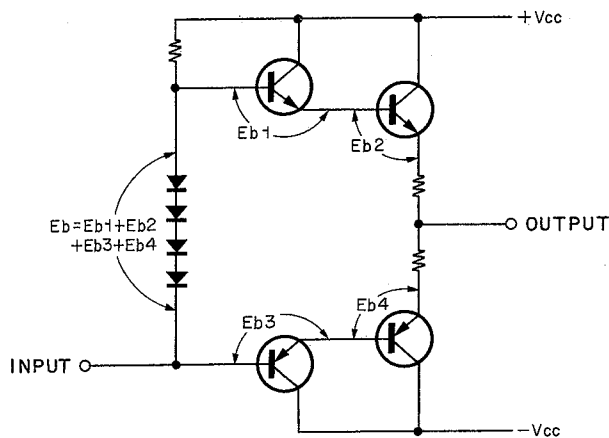
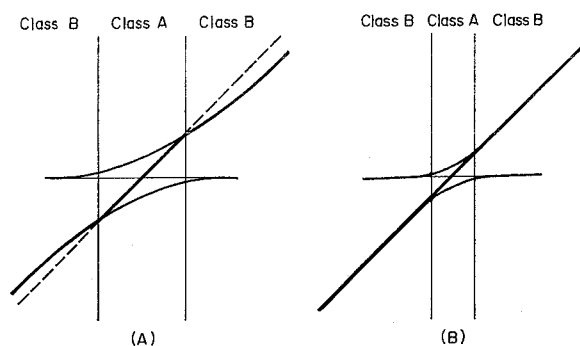
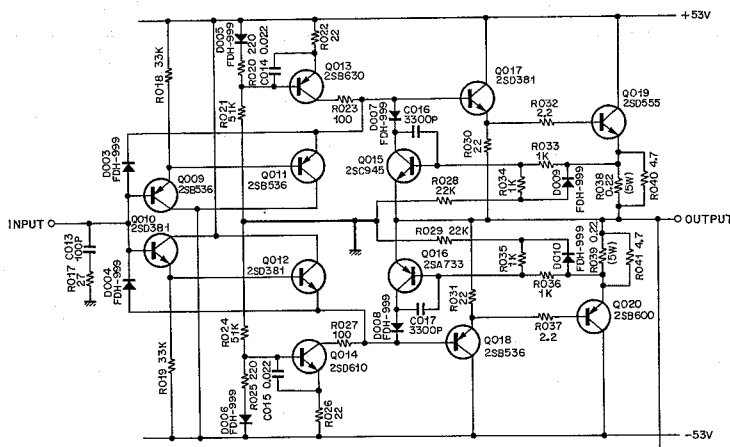

Fig. 2.4
Fig. 2.5
Fig. 2.3
Especially for a class B push-pull amplifier, distortion cannot be reduced unless the positive and negative signal amplifiers are well balanced. The amplifier in the 620, however, is best balanced thanks to the vertically and horizontally symmetric configuration as shown in Fig. 2.3. This circuit allows distortion of only 0.1% at 1KHz 100 watts output even without NFB. This degree of distortion is low enough to make the amplifier used as a high-fidelity unit even if it is given no NFB.
Fig. 2.4 shows that a change in current flowing across the diode varies the terminal voltage and that  $E_B$  changes with signal current. These changes result in the generation of distortion. It is a matter of course that signal current flowing across the diode will produce distortion. See Fig. 2.3. Transistors Q009, Q011, Q010 and Q012 that generate bias voltage form an emitter-follower circuit of class A operation. Thus this circuit does not induce distorted signals.
For an ordinary class B amplifier, crossover distortion is reduced by increasing idling current thus overlapping the operating ranges of the positive and negative transistors. The overlap portion acts as a class A amplifier. Generally, the degree of amplification decreases where a change takes place from class A to B and no linear curve is obtained as shown in Fig. 2.5 (A). However, if the circuit shown in Fig. 2.3 is current-driven, a linear curve can be obtained at the point of change from class A to B as shown in Fig. 2.5 (B).